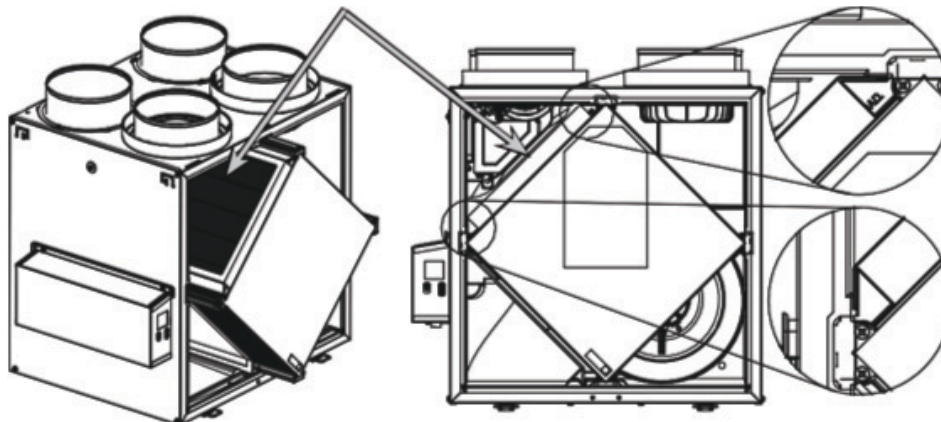

Fig. 28 – Optional MERV13 Filter or HEPA Membrane Filter
15. Install the MERV13 filter over the core (Fig. 28).